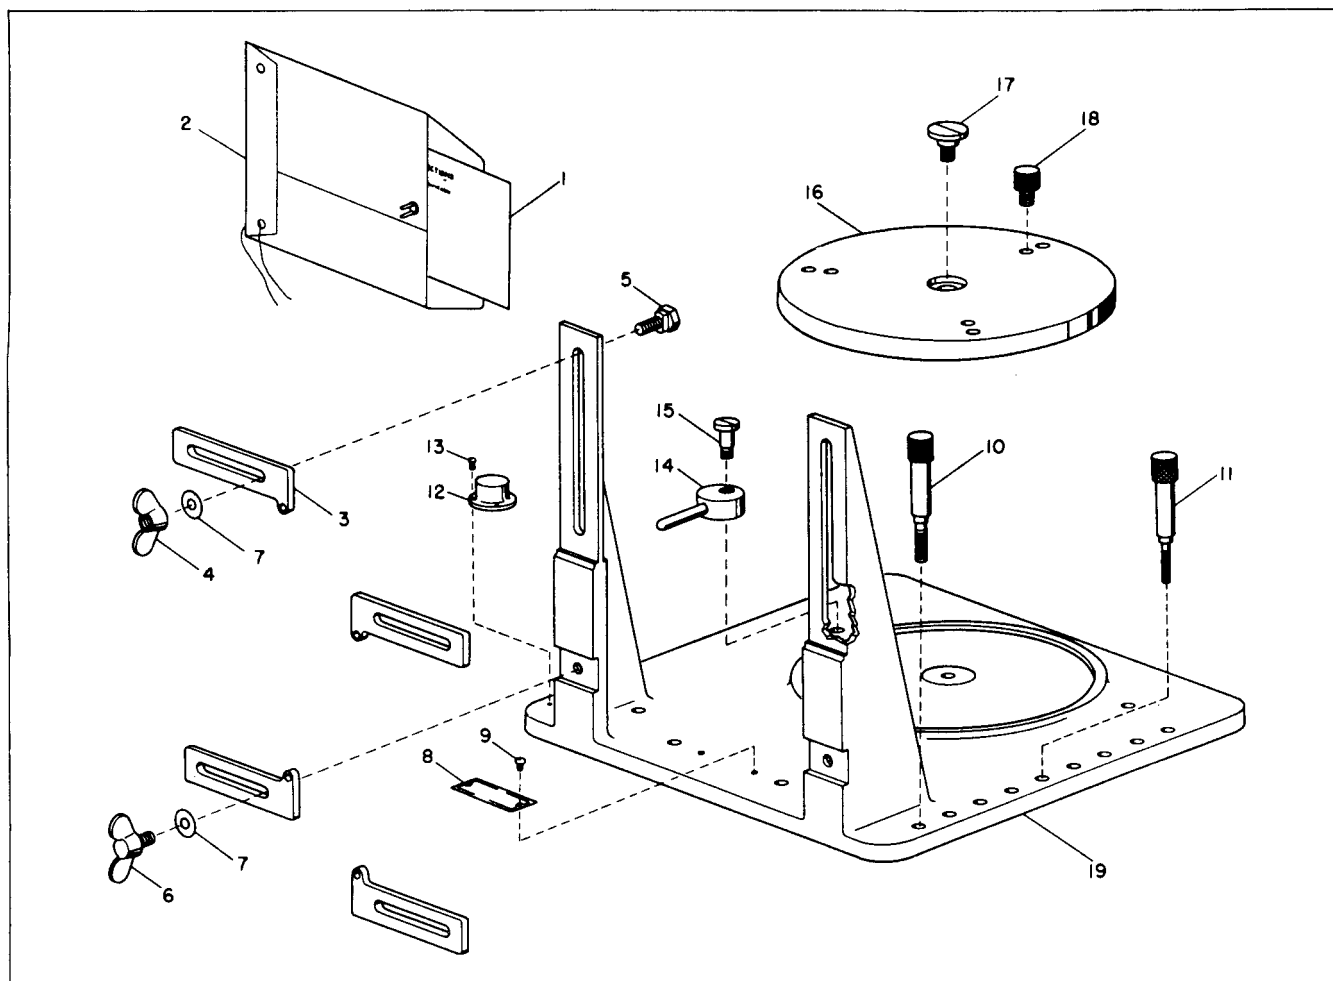

Figure 6-2. Exploded View - Universal Mount
a. Remove the screw (17, figure 6-2) and take off the turntable (16.)
## KEY TO FIGURE 6-2